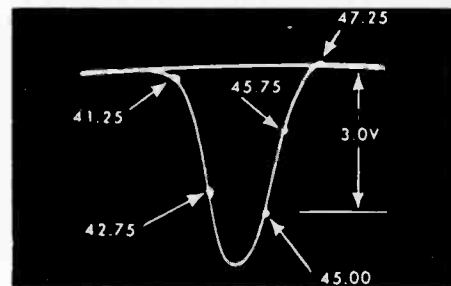

Fig. 7 Overall IF Response.
8. Adjust the first IF bottom core (44.Mc), second IF (42.75 Mc), third IF (45 Mc), and converter plate coil to obtain a response similar to Fig. 7.